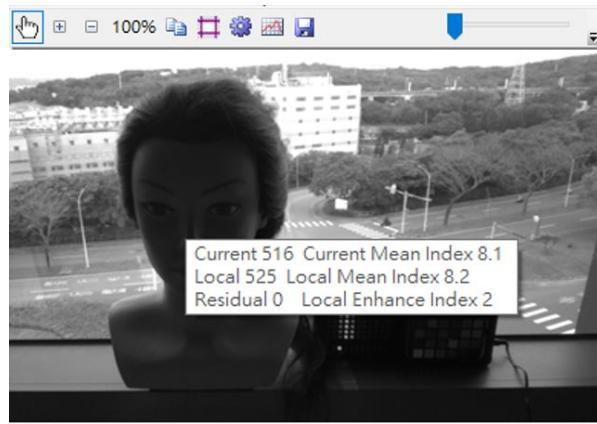

Fig. 5-134 Tuning Info from Preview
- Move cursor on the preview, get Current Mean Index for tuning user defined LTM Curve. (Fig. 5-134)
- Move cursor on the preview, get Local Mean Index for tuning user defined Scale Curve. (Fig. 5-134)
- If Residual Value <0, tune the Darker Enhance Curve. Otherwise, tune Brighter Enhance Curve. (Fig. 5-134)